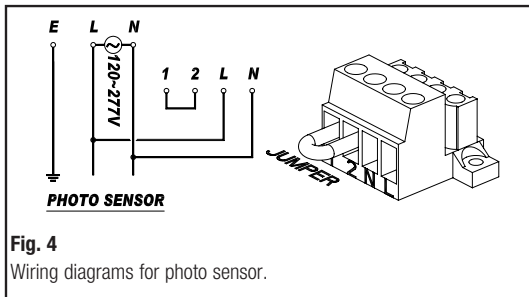

Fig. 4
2. For photo sensor operation, leave the jumper between terminals 1 and 2 and slide the slide switch to the Photo Sensor position (see Fig. 4 for wiring connections). The photo sensor will turn the fixture on when the ambient lighting < 10 Lux, and off when the ambient lighting > 30 Lux.